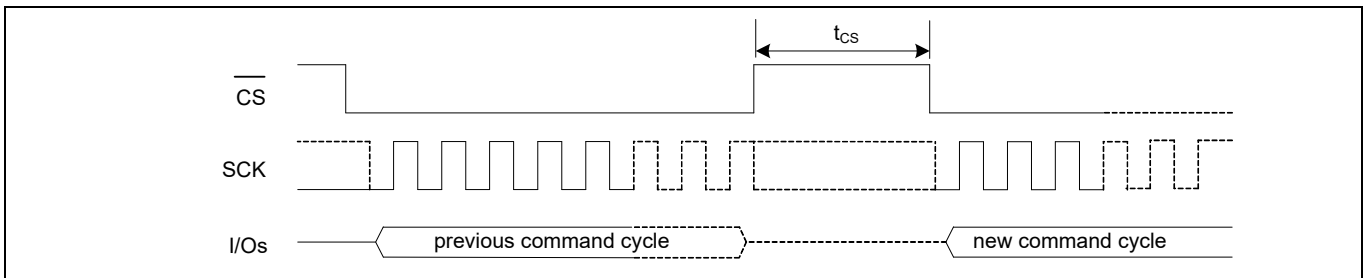

Figure 116 Chip deselect (\overline{CS} HIGH) - t_{cs} timing
22. t_{CS} is the minimum chip deselect ($\overline{\text{CS}}$ HIGH) time before the new command cycle starts in a specific SPI mode (SPI, DPI or QPI). This parameter ensures that previous operation is successfully completed before the host starts a new command cycle. Refer to Figure 116.
- 22. t_{CS} is the minimum chip deselect ($\overline{\text{CS}}$ HIGH) time before the new command cycle starts in a specific SPI mode (SPI, DPI or QPI). This parameter ensures that previous operation is successfully completed before the host starts a new command cycle. Refer to Figure 116.
26. t_{CS} is the minimum chip deselect ($\overline{\text{CS}}$ HIGH) time before the new command cycle starts in a specific SPI mode (SPI or QPI). This parameter ensures that previous operation is successfully completed before the host starts a new command cycle. Refer to Figure 116.
- 26. t_{CS} is the minimum chip deselect (\overline{CS} HIGH) time before the new command cycle starts in a specific SPI mode (SPI or QPI). This parameter ensures that previous operation is successfully completed before the host starts a new command cycle. Refer to **Figure 116**.